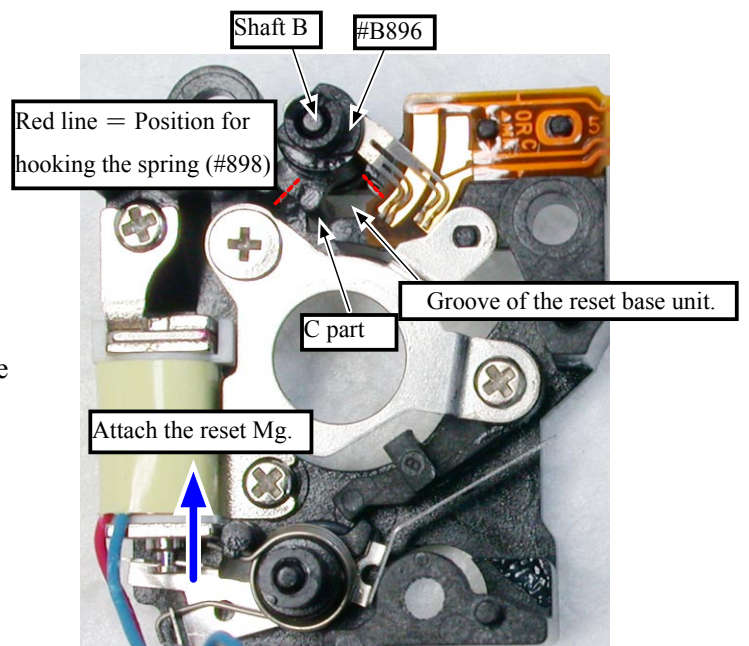

Fig.1
- ① Put the spring (#898) on the shaft B. (Fig.1)